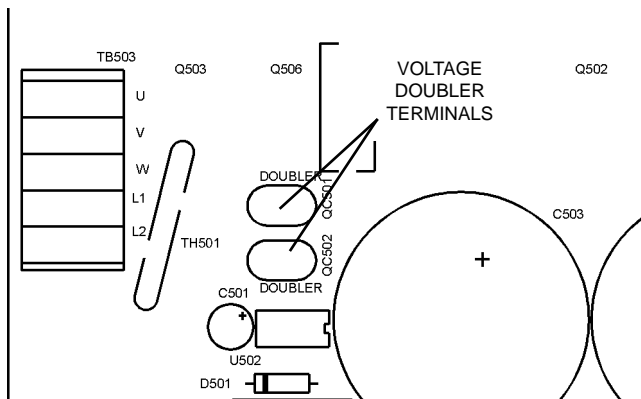

Figure 8. Voltage Doubler Terminals
2. Add a jumper to the voltage doubling terminals. Refer to Figure 8 for terminal location.
2. Verify that the voltage output is properly set by installing or removing a jumper on the voltage doubler terminals, as required. Refer to Figure 8 (page 19).